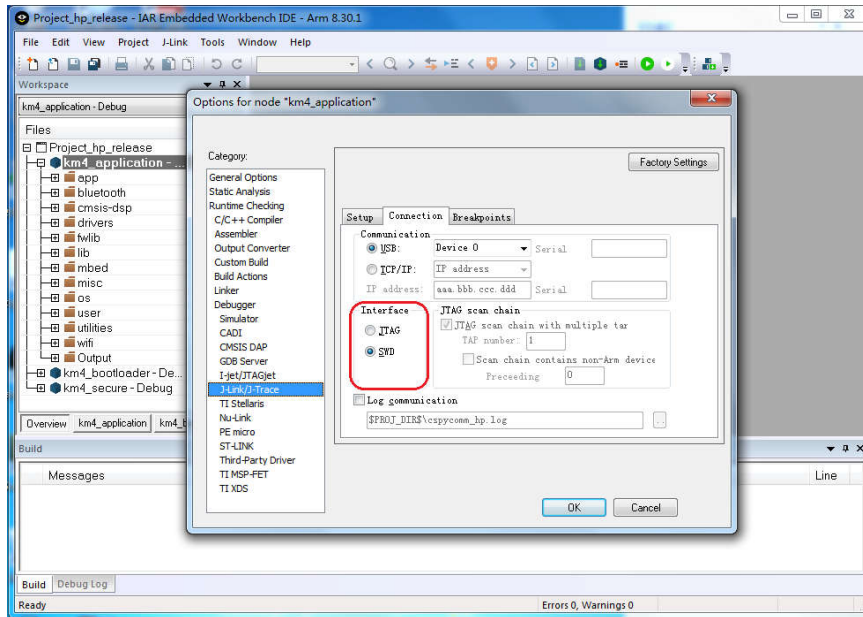

Fig 1-14 J-Link interface setup
- b) Click **Debugger > J-Link/J-Trace > Connection > Interface**, and choose "SWD", as Fig 1-14 shows.